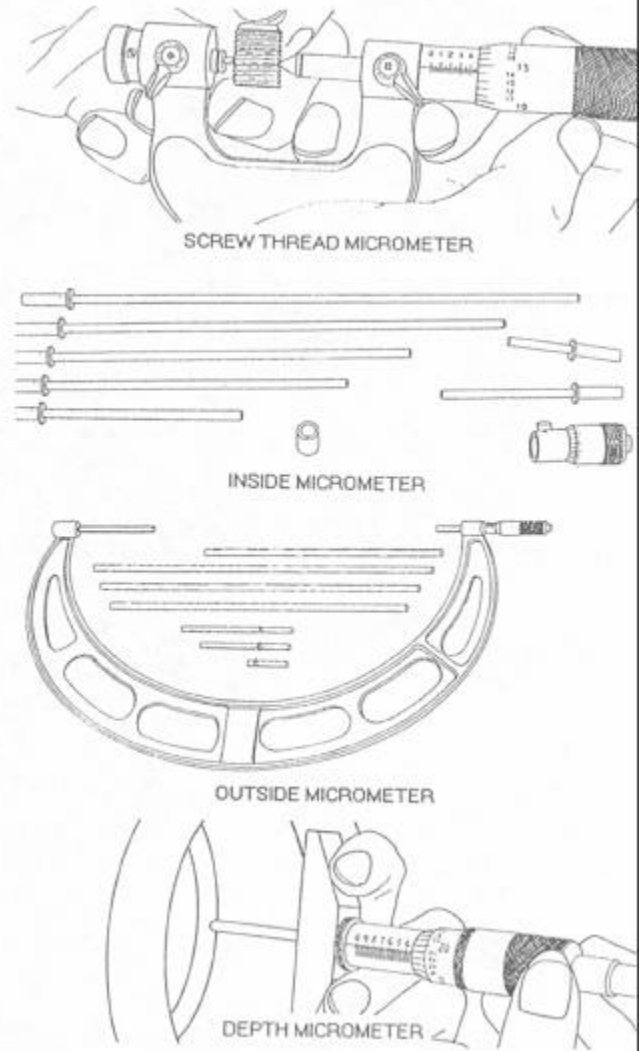

Figure 1-4.—Common types of micrometers.
**OUTSIDE MICROMETER.**—Outside micrometers (figs. 1-4 and 1-5), are used to measure the thickness or the outside diameter of parts. They are available in sizes ranging from 1 inch to about 96 inches in steps of 1 inch. The larger sizes normally come as a set with interchangeable anvils that provide a range of several inches. The anvils have an adjusting nut and a locking nut to allow you to set the micrometer with a micrometer standard. Regardless of the degree of accuracy designed into the micrometer, the skill applied by each individual is the primary factor in determining accuracy and reliability in measurements. Training and practice will make you proficient in using this tool.
**INSIDE MICROMETER.**—An inside micrometer (fig. 1-4) is used to measure inside diameters or between parallel surfaces. They are available in sizes ranging from 0.200 inch to over 100 inches. The individual interchangeable extension rods that may be assembled to the micrometer head vary in size by 1 inch. A small sleeve or bushing, which is 0.500 inch long, is used with these rods in most inside micrometer sets to provide the complete range of sizes. It's slightly more difficult to use the inside micrometer than the outside micrometer—there is more chance that you won't get the same "feel" or measurement each time you check the same surface.
**DEPTH MICROMETER.**—A depth micrometer (fig. 1-4) is used to measure the depth of holes, slots, counterbores, and recesses, and the distance from a surface to some recessed part. This type of micrometer is read exactly opposite from the method used to read an outside micrometer. The zero is located toward the closed end of the thimble. The measurement is read in reverse and increases in amount (depth) as the thimble moves toward the base of the instrument. The extension rods come either round or flat (blade-like) to permit measuring a narrow, deep recess or grooves.
**THREAD MICROMETER.**—The thread micrometer (fig. 1-4) is used to measure the depth of threads that have an included angle of  $60^\circ$ . The measurement obtained represents the pitch diameter of the thread. They are available in sizes that measure pitch diameters up to 2 inches. Each micrometer has a given range of number of threads per inch that can be measured correctly. You'll find additional information on this micrometer in chapter 6.